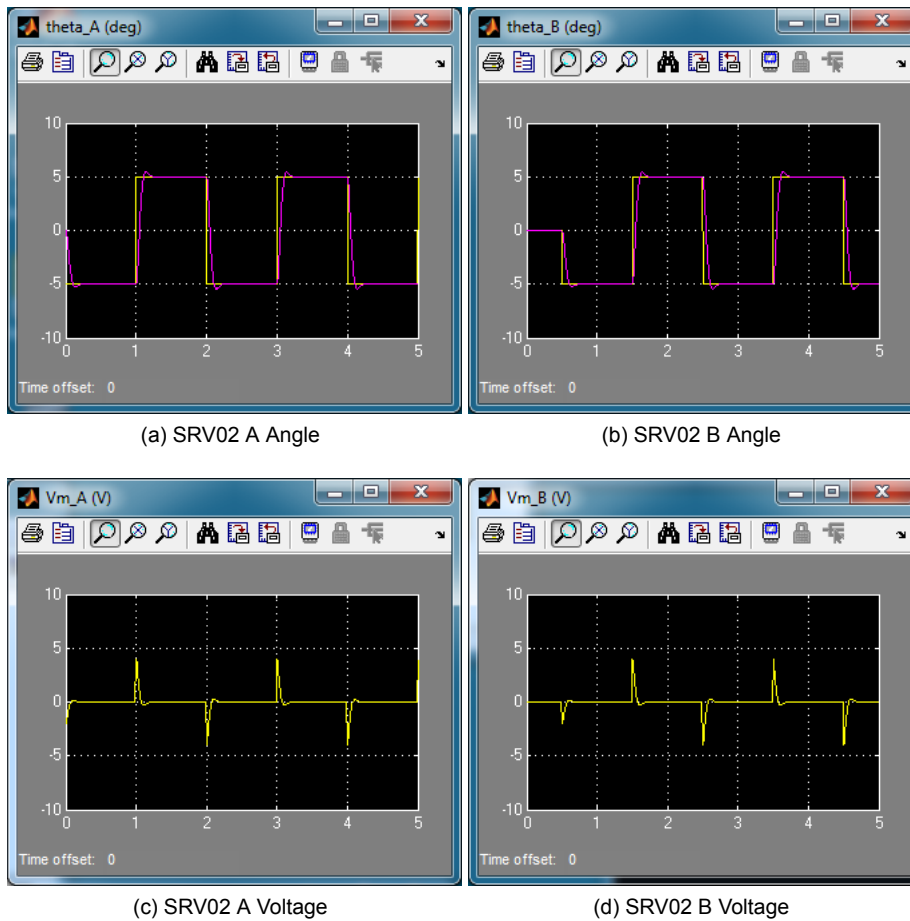

Figure 3.5: Simulated closed-loop response in joint space.
4. Open the load shaft position scope, θ_{d1} (rad), and the motor input voltage scope, V_m (V).
5. Start the simulation. By default, the simulation runs for 5 seconds. The scopes should be displaying responses similar to Figure 3.5. Note that in the θ_{d1} (rad) scopes, the yellow trace is the setpoint position while the purple trace is the simulated position (generated by the *SRV02 Model* block).